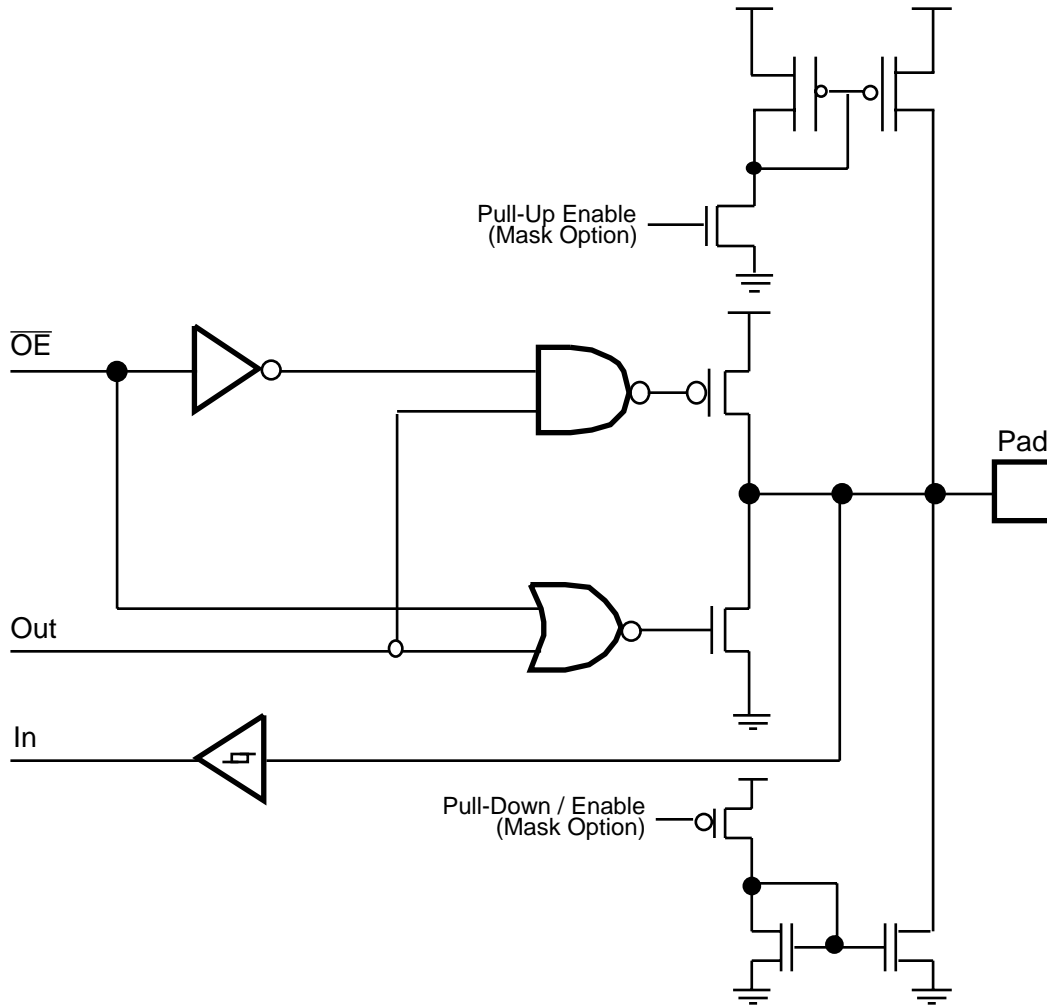

Figure 6. Port 0 Configuration
**Port 0 (P02-P00).** Port 0 is a 3-bit, I/O programmable, bi-directional, CMOS-compatible I/O port. These three I/O lines can be configured under software control to be input or output (Figure 6). When Port 0 is configured as an input port, all lines have the capability to either sink or source (ROM mask selectable) current emulating a 100K pull-